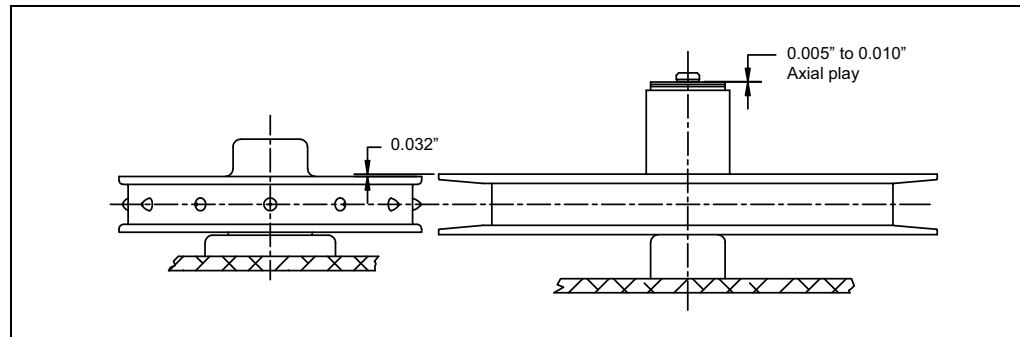

Figure 4-27: Sheave Alignment
4. Adjust the number of shims to bring the sheaves into the specified alignment as shown on Figure 4-27.